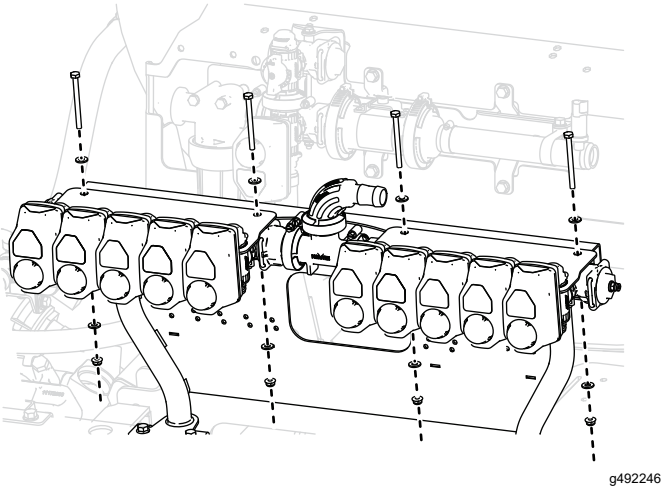

Figure 45
8. Assemble the bypass brackets and manifold assembly to the valve mount using 4 bolts (1/4 x 3 inches), 8 washers (5/8 inch), and 4 locknuts (1/4 inch) as shown in Figure 45.